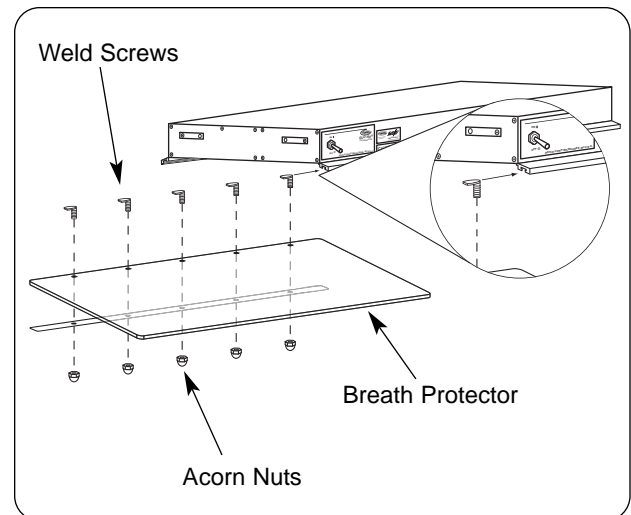

Figure 20. Installing Breath Protectors
2. Position the acrylic breath protector into the channel on the warmer with the mounting holes aligned. (See Figure 20.)